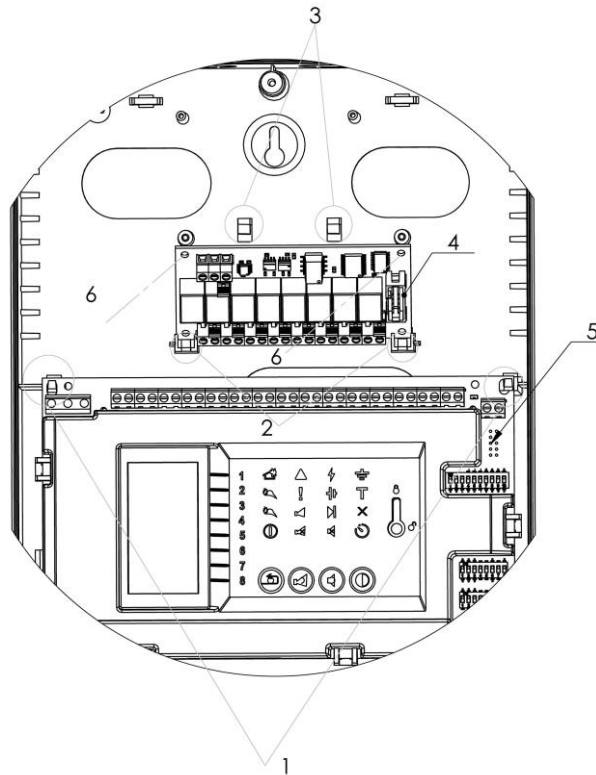

Fig.5
**2.5.** The main interface board in FCP is mounted to the bottom holders, as illustrated on fig.5, pos.1.
**2.6.** The bottom side of the extension module is mounted on the holders (fig.5, pos.2);
The top side of the extension module is pushed (fig.5 pos.6) until the top-side holders click to fix it (fig.5, pos.3);
**2.7.** Connect the ribbon cable to the module, fig.5 pos.4 and to the connector located on the FS4000 main PCB, fig.5 pos.5. The connectors are provided with a slot, determining the direction of the connection. network line